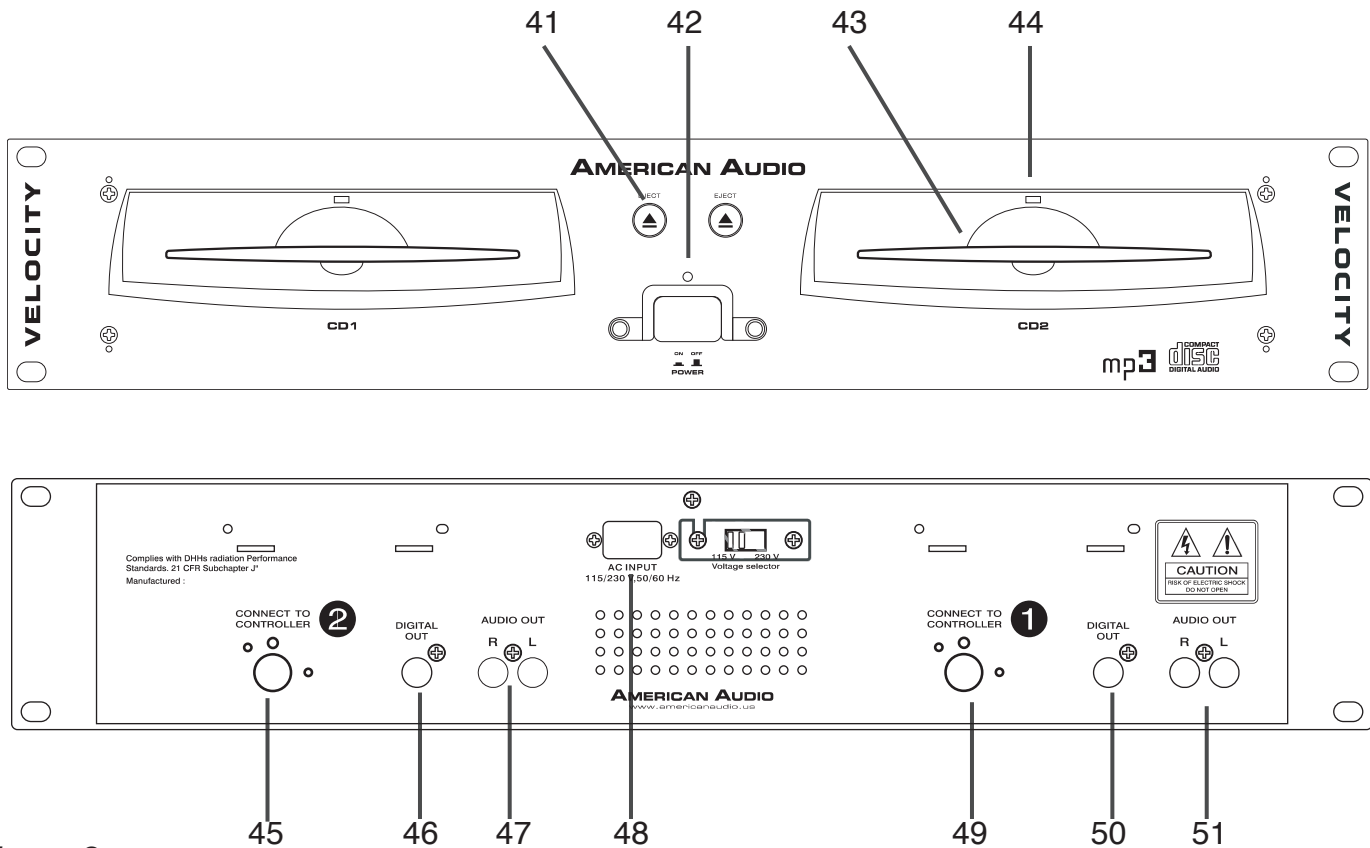

Figure 3
B. REAR PANELS (FIGURE 3)
41. EJECT FUNCTION - This button functions in the same fashion the main *EJECT BUTTON* (11) on the control unit functions. This button is used to eject a disc inserted in the transport drive. This button will only function when the unit is in pause or cue mode to prevent the disc from accidentally being removed during playback.